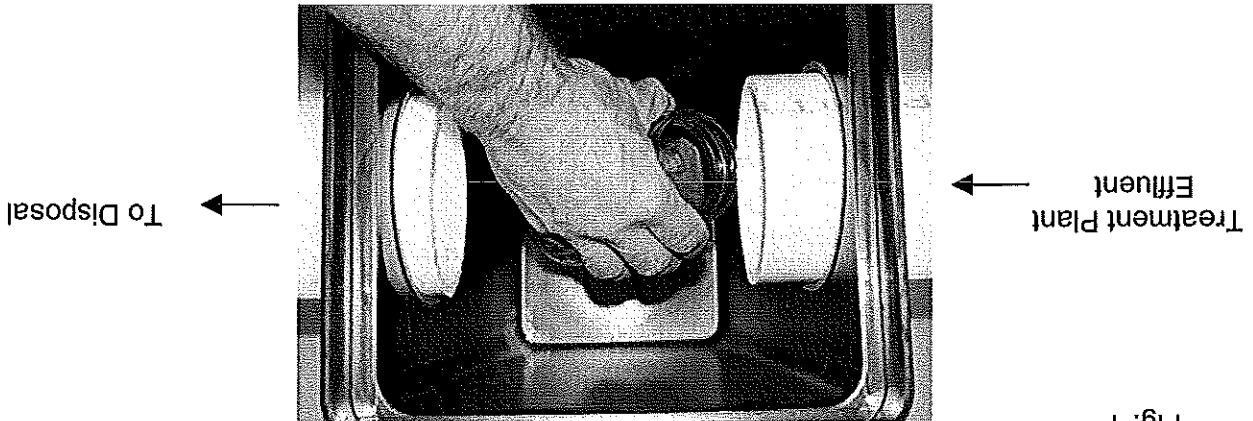

Fig. 1
1. Provide a suitable sampling port on the outlet of the *NAYADIC* (see Fig. 1). The port should be at least 6" in diameter, with a minimum depth of 8" below the effluent line.
3. By opening a faucet or inserting a garden hose into the cleanout before the *NAYADIC*, generate a flow through the plant. Allow the flow to continue for approximately one (1) minute in order to flush the line.